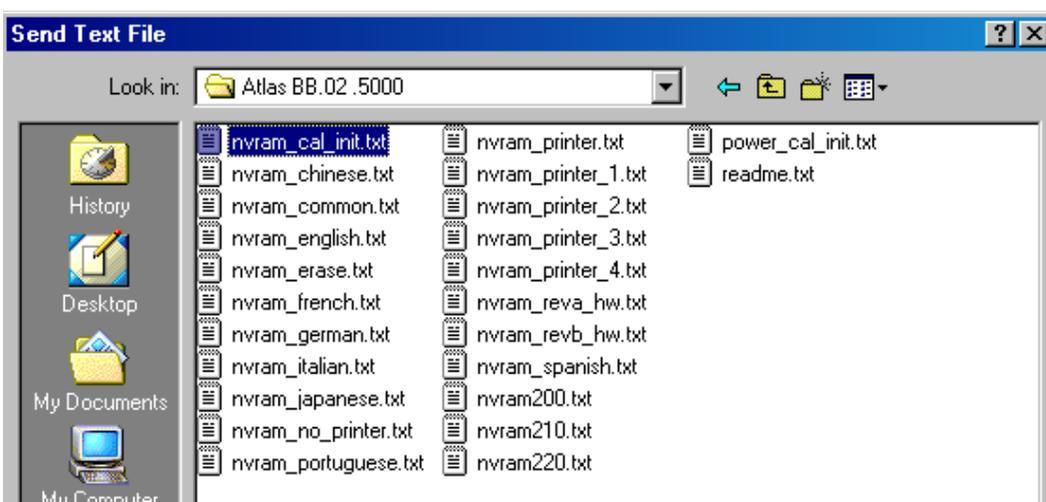

Figure 2-10. Choosing the nvr_{am}_cal_init.txt file.
7. Once the folder is open, open the file “**nvr_{am}_cal_init.txt**” file by double left clicking on that file or by high lighting the file and then click on the **Open** button. See example in Figure 2-10.